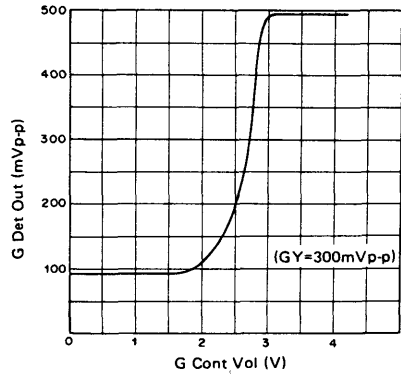

Fig. 2
- [2] G control characteristics (Fig. 2)